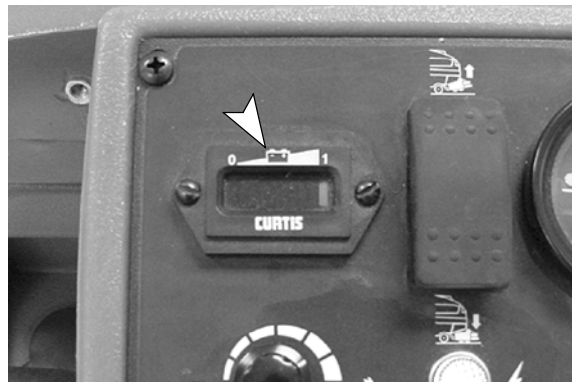

FIG. 13
6. Observe the battery meter discharge level (Figure 13). If the meter begins to flash, stop scrubbing and transport the machine to the recharging area. If two lights begin to flash alternately, the cleaning function will automatically shut off and the scrub head will rise to the transport position. This protects the batteries from total discharge. Recharge batteries immediately.